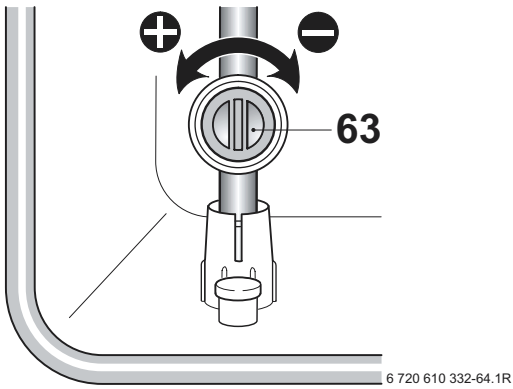

Fig. 41
- ▶ Adjust the gas flow restrictor (63) to obtain the CO₂ level given in Table 15. Refer to fig. 41